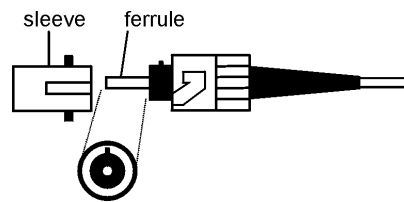

Figure 6: Connector Cleaning (connector type can vary)
1. Blow the sleeve with filtered compressed air (Figure 6).